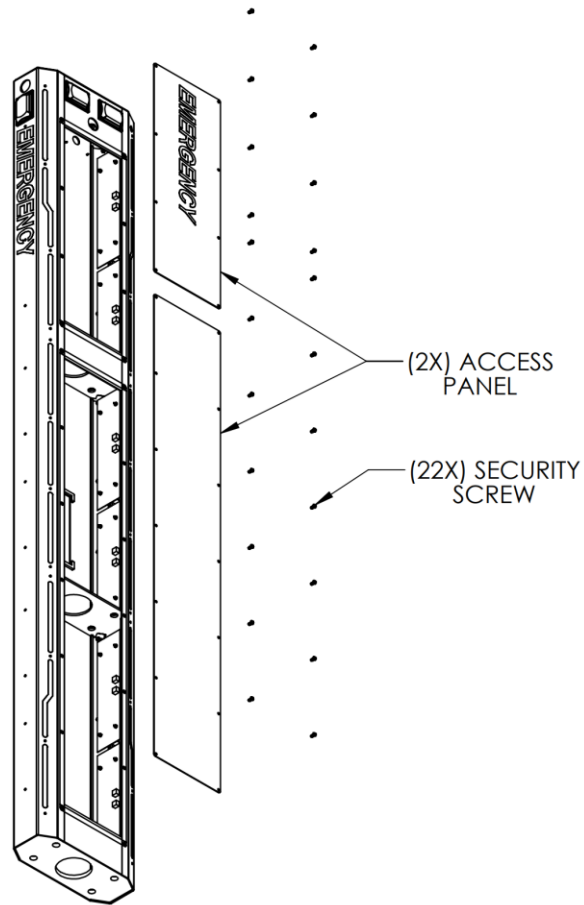

Figure 5 Exploded view of the tower BLH.
- Remove the access panels using the driver and T27 security bit (see Figure 5).